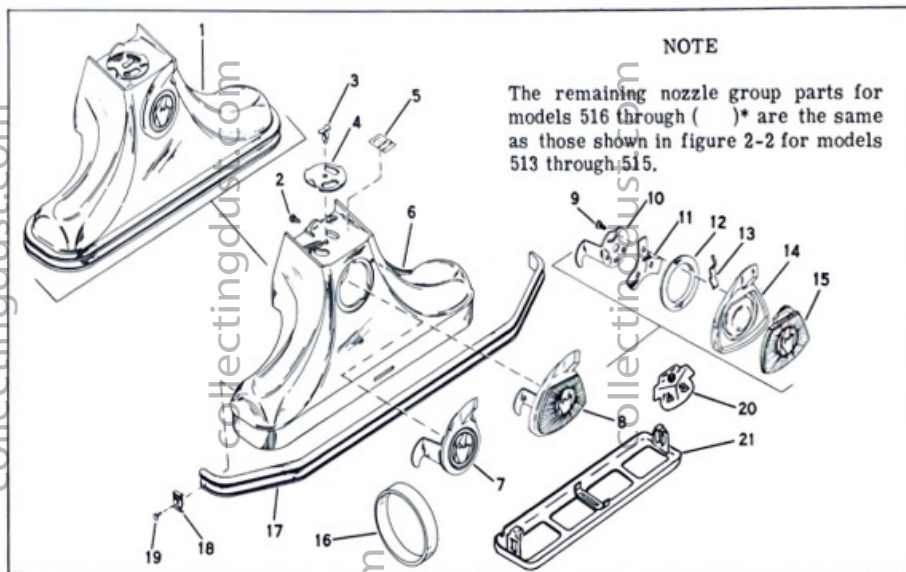

Figure 2-3. Nozzle Group (Models 516 through )\*
a. Remove the belt lifter stop screw (2, fig. 2-3) through the hole at the back of the nozzle as shown in figure 2-7.
b. Rotate the belt lifter (7 or 8, fig. 2-3) to align the flanges with the slots of the nozzle casting (6); remove the belt lifter.
c. Disassemble the Model 560/( )\* belt lifter by removing the three screws (9); remove the hook (10), spring (11), and bearing (12). Pull the clip (13) from the cap casting (14) and push out the plastic insert (15). Reassemble in the reverse order, taking care that the flanged side of the bearing is toward